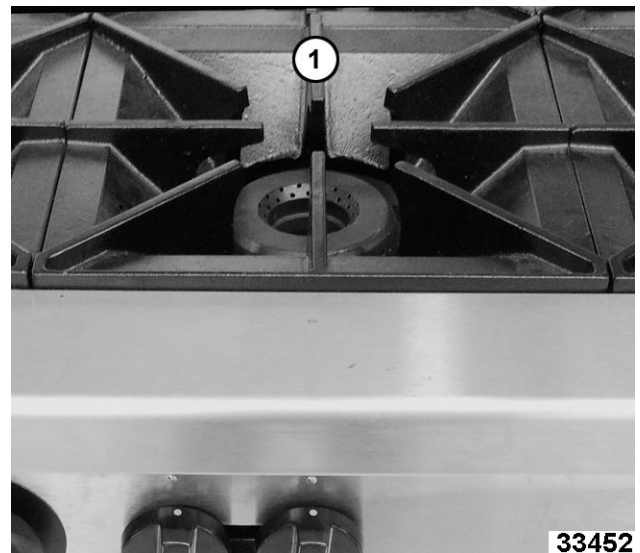

Fig. 17
4. Remove burner grates (1, Fig. 17) as needed to access capillary tube.